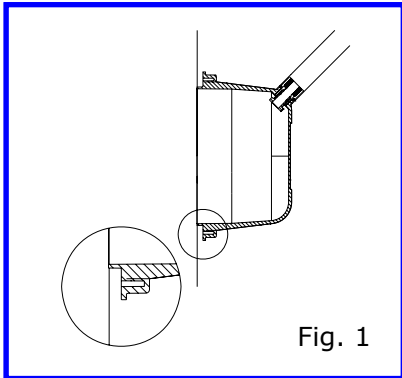

Fig. 1
- Fix the niche (item no. 5) in the wall of the swimming pool, by keeping the cable outlet in the upper direction (Fig. 1)
- Install the niche in a way that the finished wall lines up with the extended ring of the niche (Fig. 1)